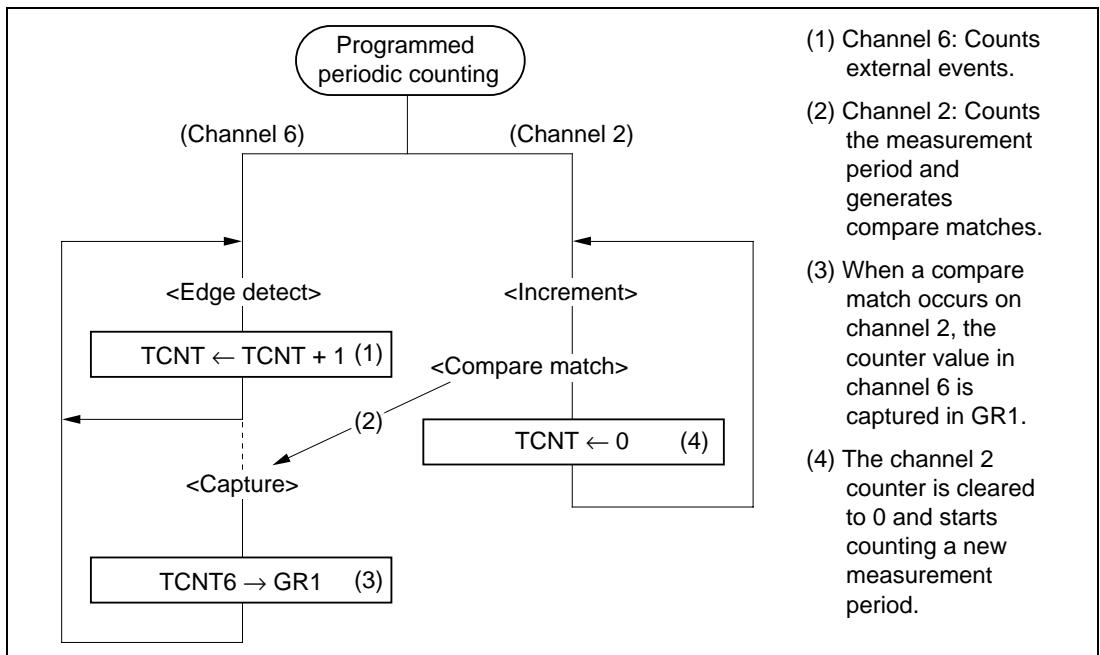

Figure 11-38 Operation in Programmed Periodic Counting Mode
**Programmed Periodic Counting Operation:** Figure 11-38 shows the programmed periodic counting operation.